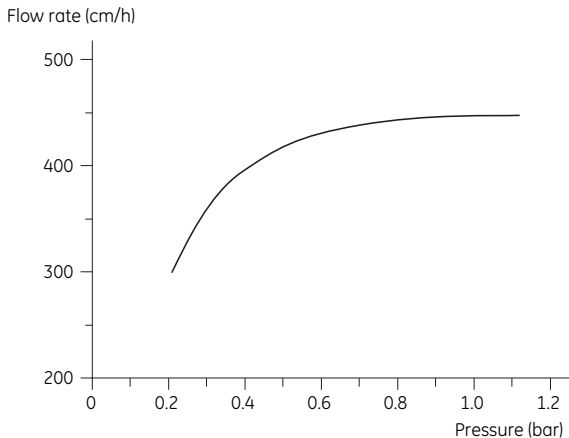

Fig 1. Typical pressure/flow rate curves for Butyl Sepharose 4 Fast Flow in an XK 50/30 column, bed height 15 cm; mobile phase 0.1 M NaCl.
Columns can be packed in different ways depending on the type of column and equipment used. Always read and follow the relevant column instruction manual carefully. Sepharose 4 Fast Flow based media are easy to pack since their rigidity allows the use of high flow rates, see Fig 1.
6. Plot the pressure/flow rate curve as in Fig 1 and determine the optimal packing flow rate.